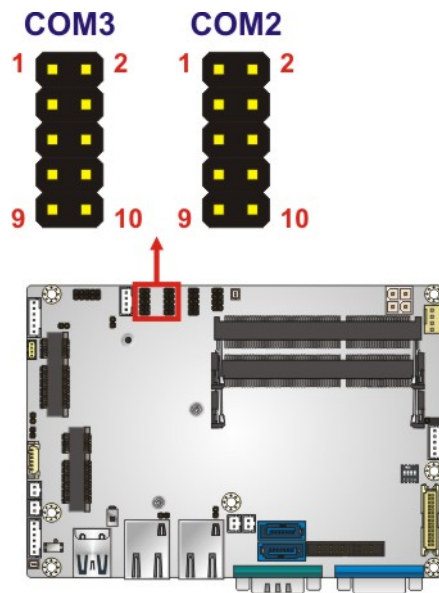

Figure 3-22: RS-232 Serial Port Connector Locations
- CN Location:** See Figure 3-22